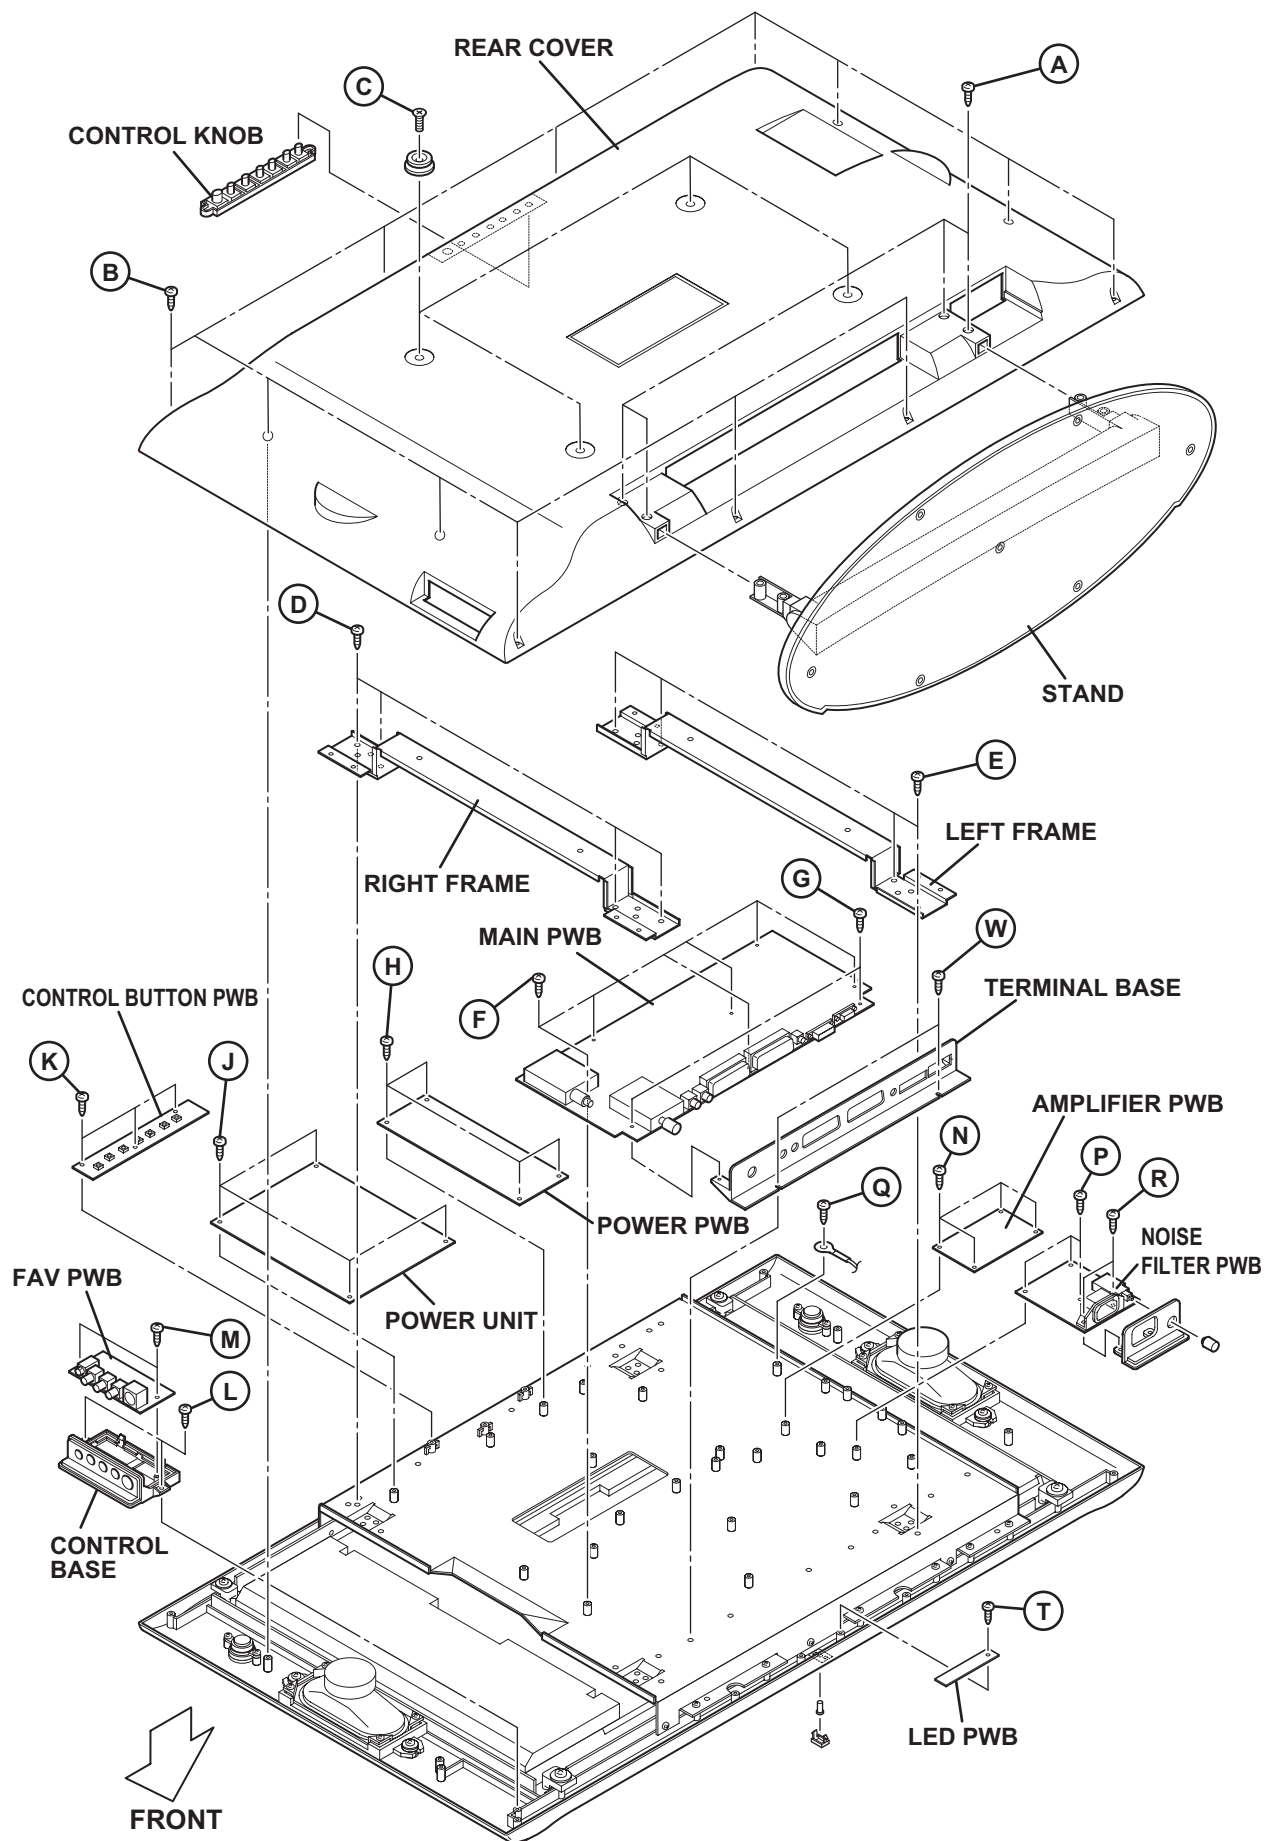

Fig.1
3.1.1 REMOVING THE STAND (Fig.1)
- (1) Remove the 4 screws [A], then remove the STAND.
3.1.2 REMOVING THE REAR COVER (Fig.1)
- (1) Remove the 12 screws [B] and 4 screws [C], then remove the REAR COVER.
3.1.3 REMOVING THE MAIN PWB (Fig.1)
3.1.4 REMOVING THE POWER PWB (Fig.1)
- (1) Remove the 4 screws [H], then remove the POWER PWB.
3.1.5 REMOVING THE POWER UNIT (Fig.1)
- (1) Remove the 4 screws [J], then remove the POWER UNIT.
3.1.6 REMOVING THE CONTROL BOTTON PWB (Fig.1)
- (1) Remove the 3 screws [K], then remove the CONTROL BOTTON PWB.
3.1.7 REMOVING THE FAV PWB (Fig.1)
- (1) Remove the 2 screws [L], then remove the CONTROL BASE with FAV PWB.
- (2) Remove the 2 screws [M], then remove the FAV PWB from the CONTROL BASE.
3.1.8 REMOVING THE AMPLIFIRE PWB (Fig.1)
- (1) Remove the 4 screws [N], then remove the AMPLIFIRE PWB.
3.1.9 REMOVING THE NOISE FILTER PWB (Fig.1)
- (1) Remove the 3 screws [P], 2 screws [R] and 1 screw [Q], then remove the NOISE FILTER PWB.
3.1.10 REMOVING THE LED PWB (Fig.1)